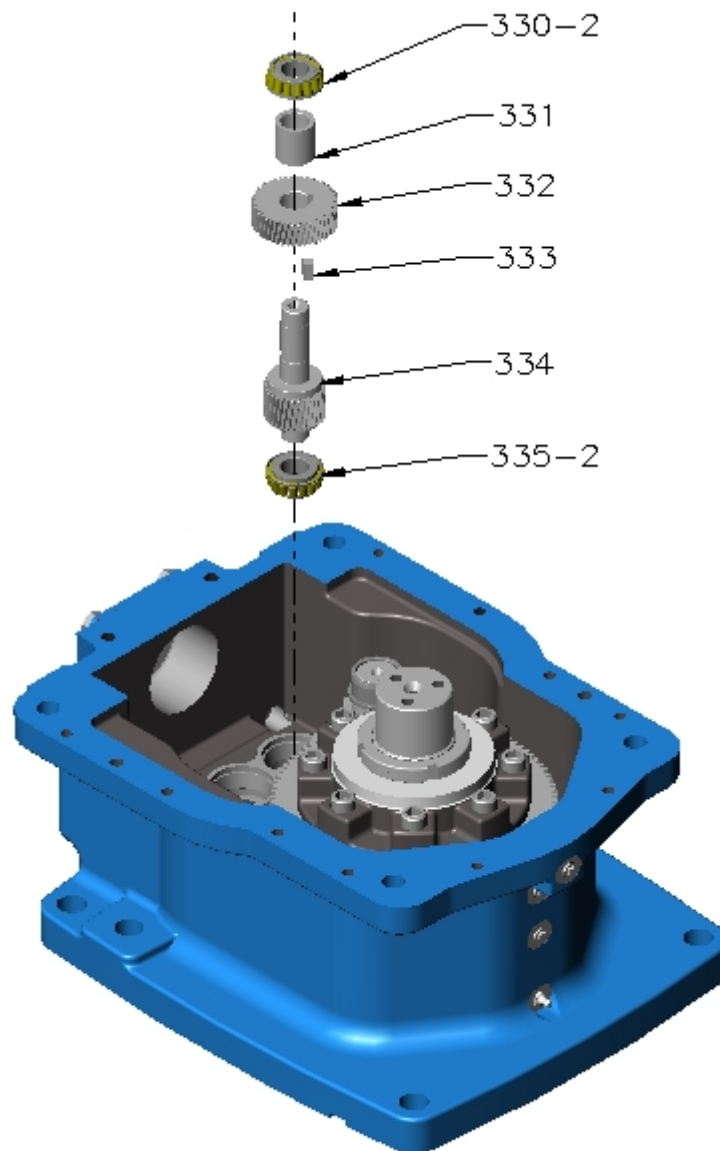

Figure 9 – 1st Intermediate Shaft
- J. Remove 1st intermediate shaft assembly (refer Figure 9).
- K. 1st intermediate shaft disassembly (refer Figure 9):